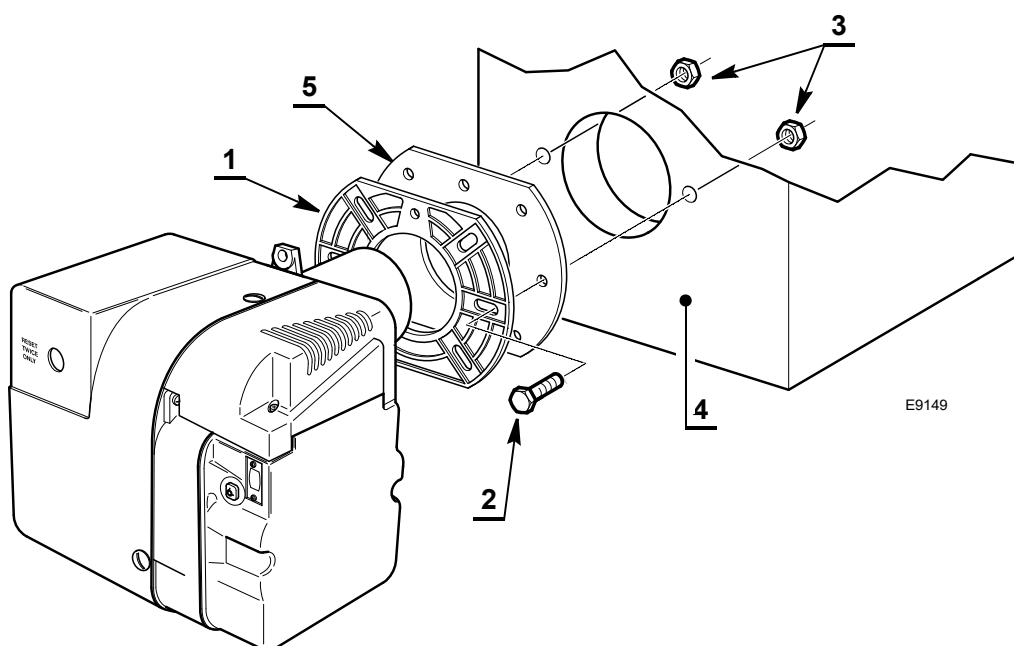

Fig. 7
- Fix the flange 1)(Fig. 7) to the boiler door 4) using screws 2) and (if necessary) the nuts 3) interposing the insulating gas-ket 5).